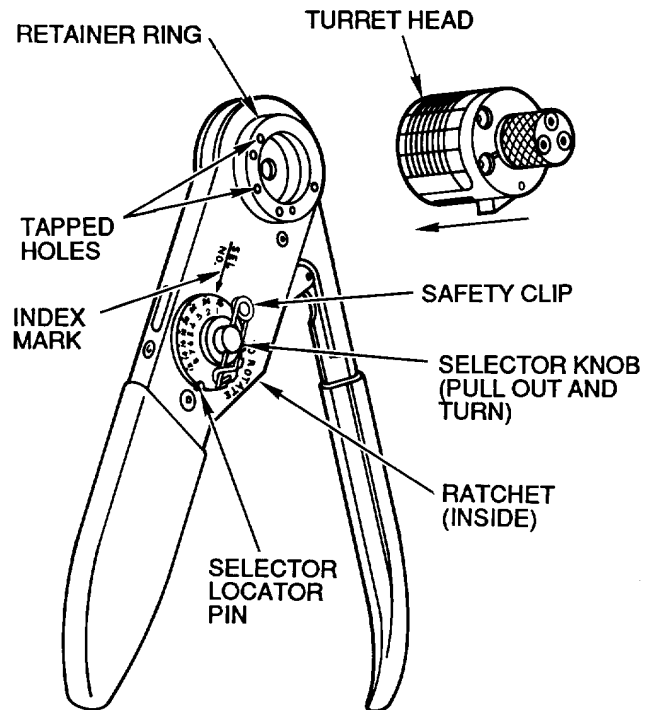

Figure 24. Crimp Tool M22520/1-01
49. **GENERAL DESCRIPTION.** This tool is considered to be the upper range adjustable crimp tool, with virtually limitless application within the 12 to 26 AWG wire range. The tool measures 9 3/4 inches X 2 1/2 inches X 1 1/4 inches and weighs 15 ounces (Figure 24).